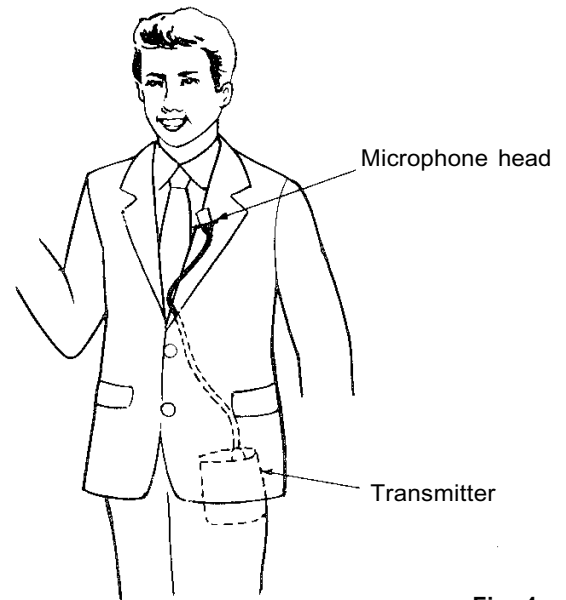

Fig. 4
2. Plug the microphone cable into the transmitter assembly. (Fig. 4)